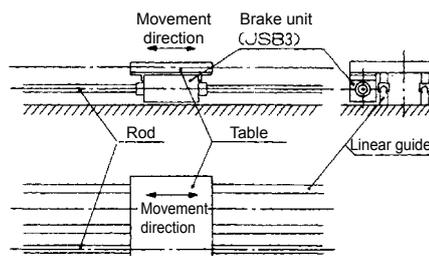

Fig. 1
■ As shown in Fig.1, the brake unit is fixed to the table, so keep the rod parallel to the direction of table movement.